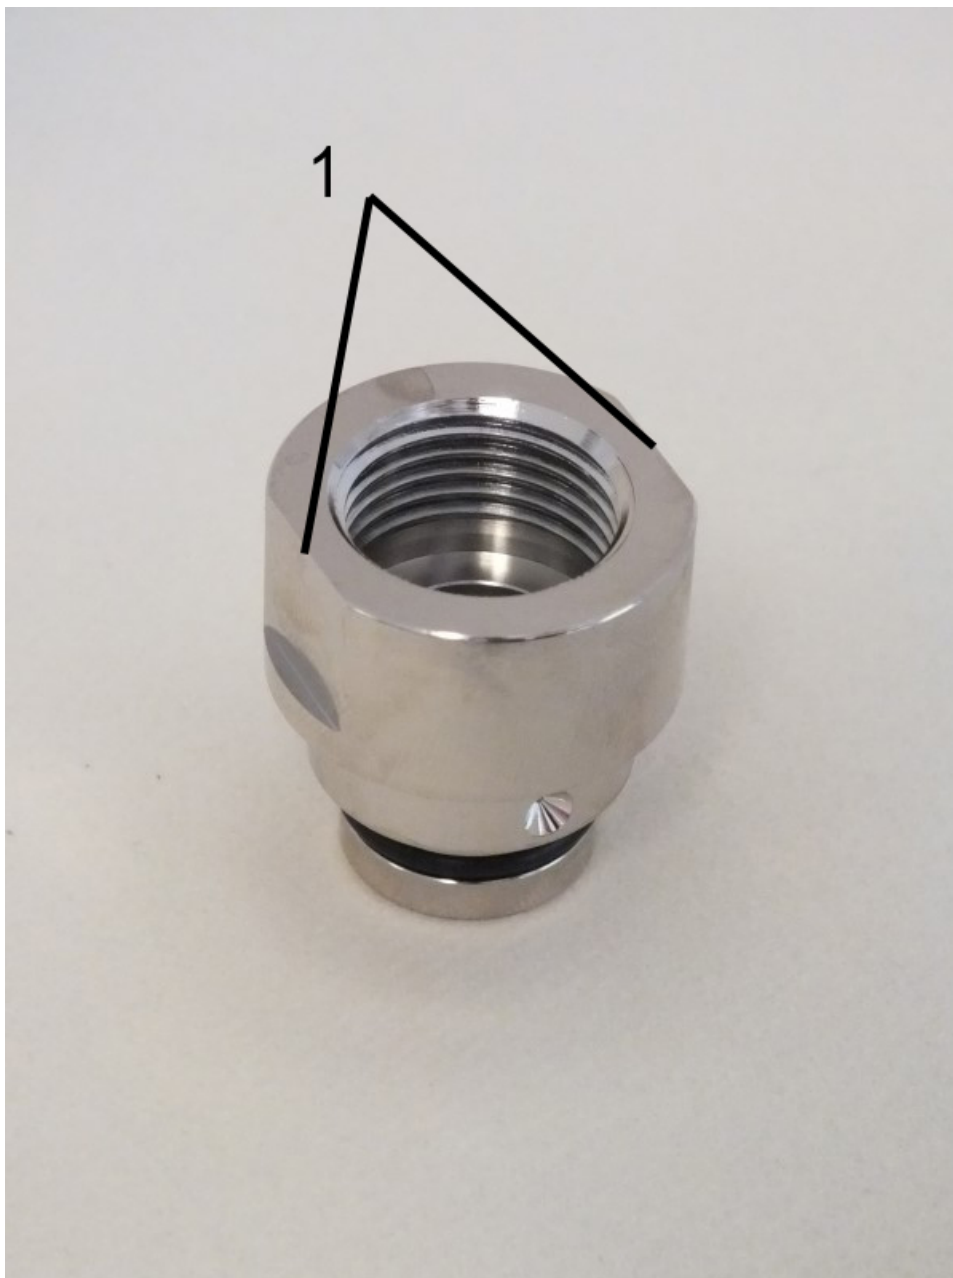

Fig. 44: Spanner flats
- 7.** ➤ Position the process connection (inlet) so that the spanner flats (*Fig. 44/1*) are at a 90° angle to the sight glass scale. The locating pin hole on the process connection must be centered on the front of the device housing locating screw.